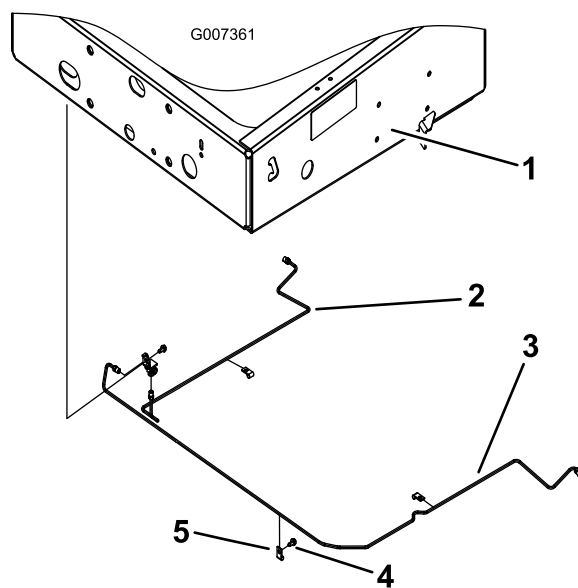

Figure 16
12. Install right hand rear brake tube (104-6796) from "Tee" to right hand brake assembly. Use brackets provided to secure the line to the box frame (Figure 16).
13. Install left hand rear brake tube (110-2604) from "Tee" to left hand brake assembly. Use brackets provided to secure the line to the box frame (Figure 16).